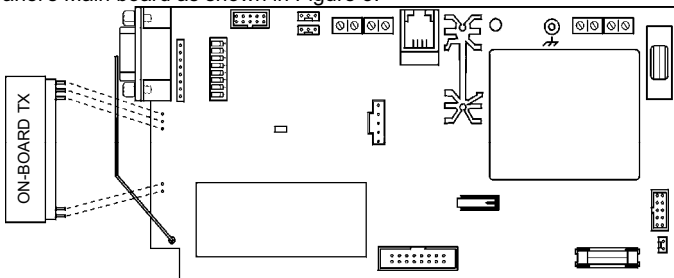

Figure 3: Plugging in the On-Board Transmitter
5. To support the OS826, the ProGuard800's Main board must have the on-board transmitter installed. Plug the on-board transmitter into the control panel's Main board as shown in Figure 3.